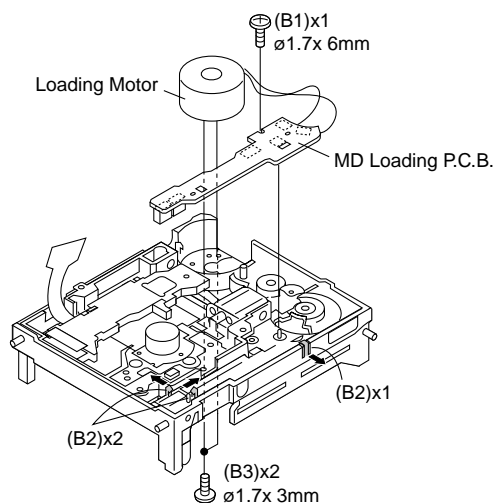

Fig. 5
**Removal of MD Loading P.C.B./Loading Motor (Fig. 5)**